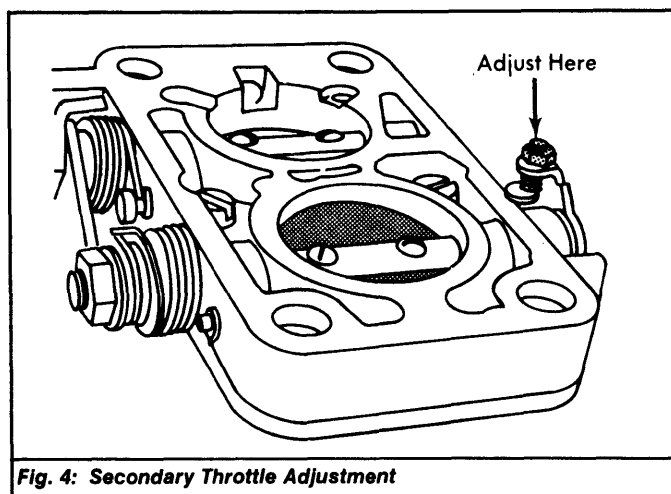

Fig. 4: Secondary Throttle Adjustment
**Audi, Dasher & Opel** - Remove carburetor and inverted on work bench. Close choke and loosen lock nut on secondary throttle stop screw. Back off adjustment screw until it is free. Turn screw in until it just touches stop, then turn an additional 1/2 turn (1/4 turn on Opel). See Fig. 4. Tighten lock nut after adjustment.